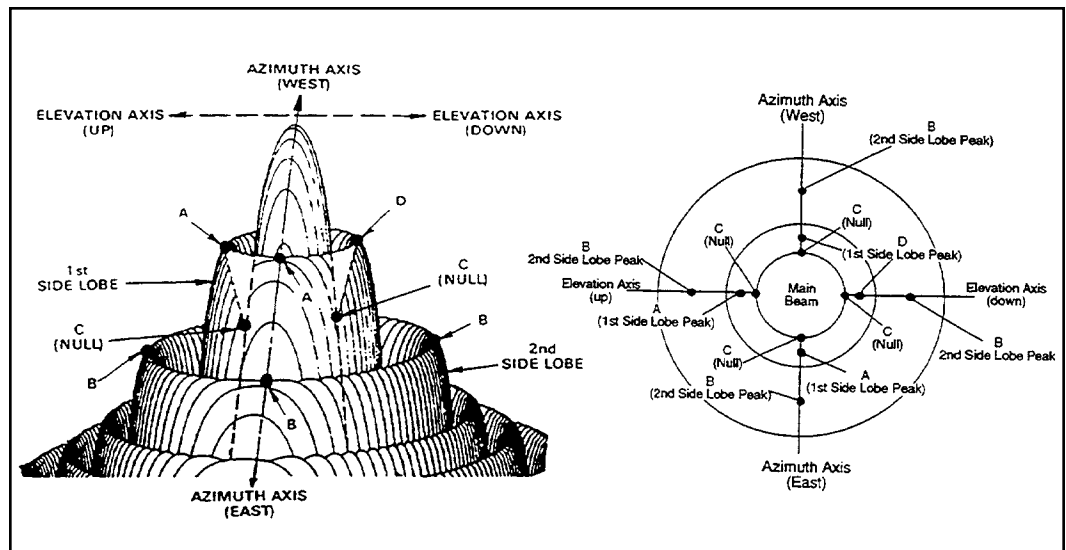

Figure 4-2: Antenna Radiation Pattern Topographical Diagram with Plan View
- Step 6** With the antenna peaked in azimuth and/or elevation, check to see if you're peaked on a sidelobe. Move the antenna in azimuth while observing the spectrum analyzer screen. Refer to Figure 4-2.